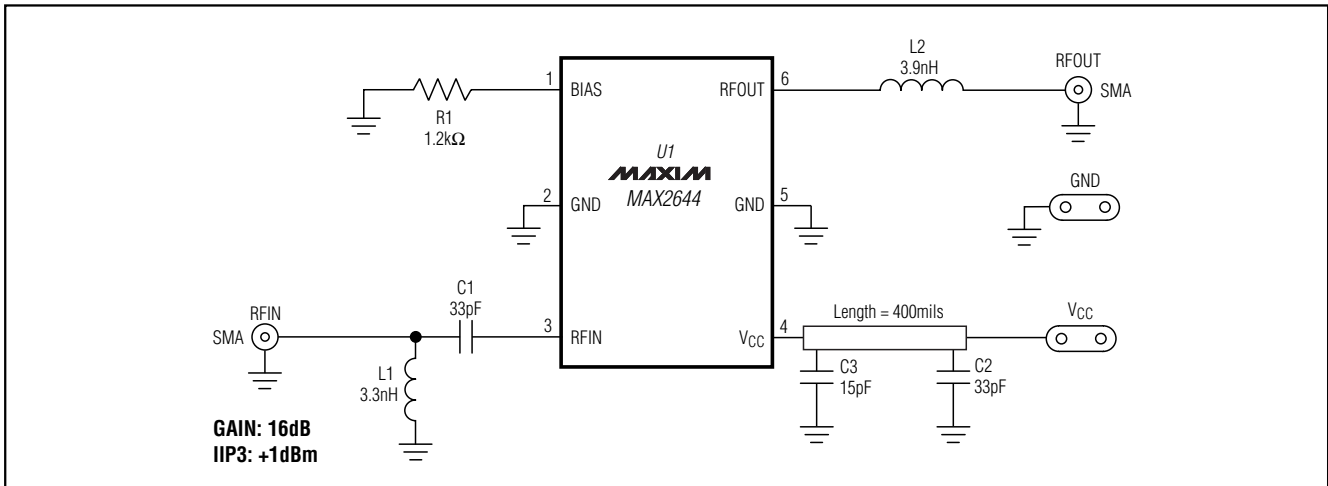

Figure 2. High Linearity Design
**Note 5:** Measured with two input tones (f1 = 2445MHz, f2 = 2455MHz) both at -30dBm per tone. Input IP3 can be improved to +1dBm with circuit shown in Figure 2.